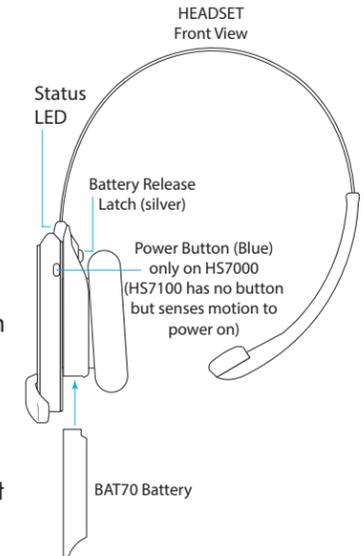

Fig. 3.3
- Install a charged BAT70 battery into the headset. It powers on if using HS7100, or press the power button to turn on if using HS7000 (see Fig. 3.3). The LEDs flash green and red.